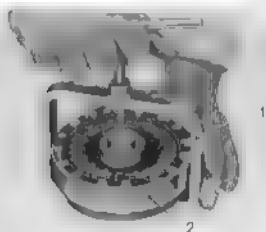

Fig. 3.67 Disassembly the clutch
5. The work of disassembling the clutch assembly (2) can be simplified by the use of special tool (1) (Tool No. 07038-03001) (Fig. 3.67).